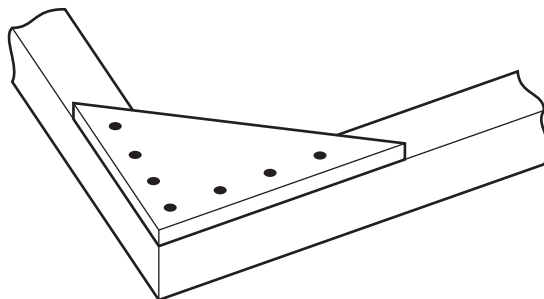

Fig. 2
- 2 Fig. 2 shows a method of jointing in a framework.